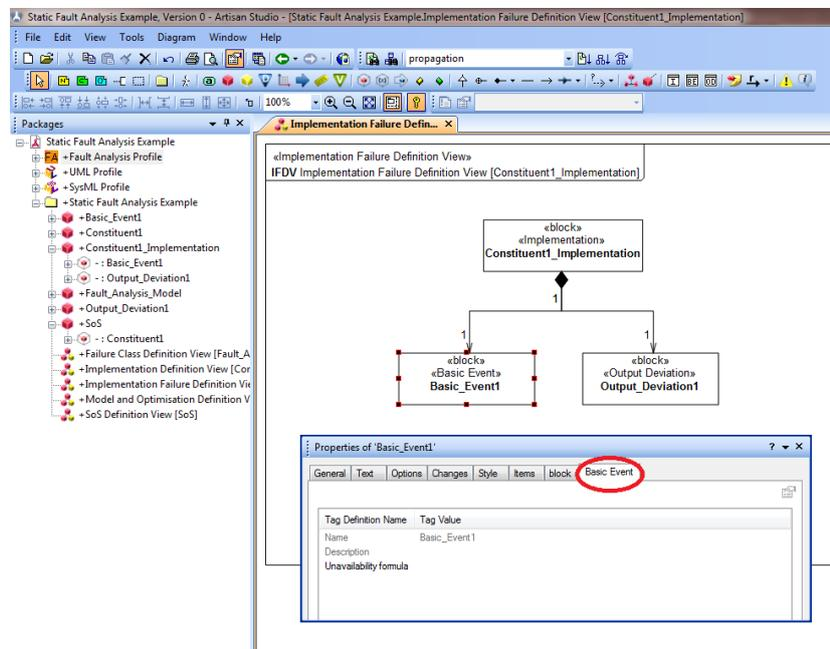

Figure 14: Click on the *Basic Event* tab in the properties window
1. Click on the view element and open up the properties window in the usual way (Alt+Enter or right click → Properties), then select the *Basic Event* tab as shown in Figure 14